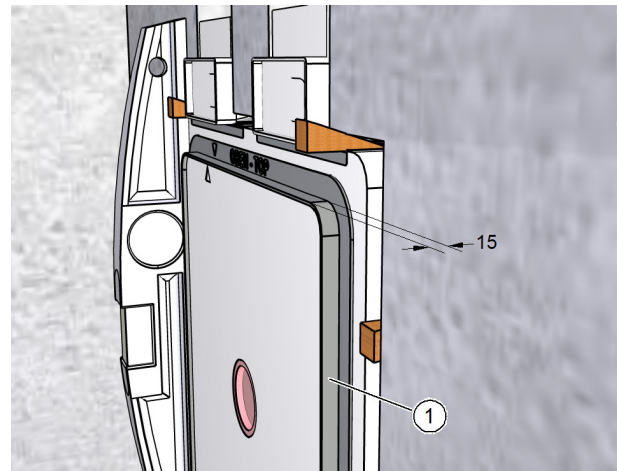

Fig. 15: Depth of plastering trim 15 mm
The plastering trim is 15 mm deep (see Fig. 15).
- ▶ If the interior wall is not perpendicular or flat, align the front surface of the plastering trim (Pos. 1 in Fig. 15) parallel to a plaster stop bead running vertically.